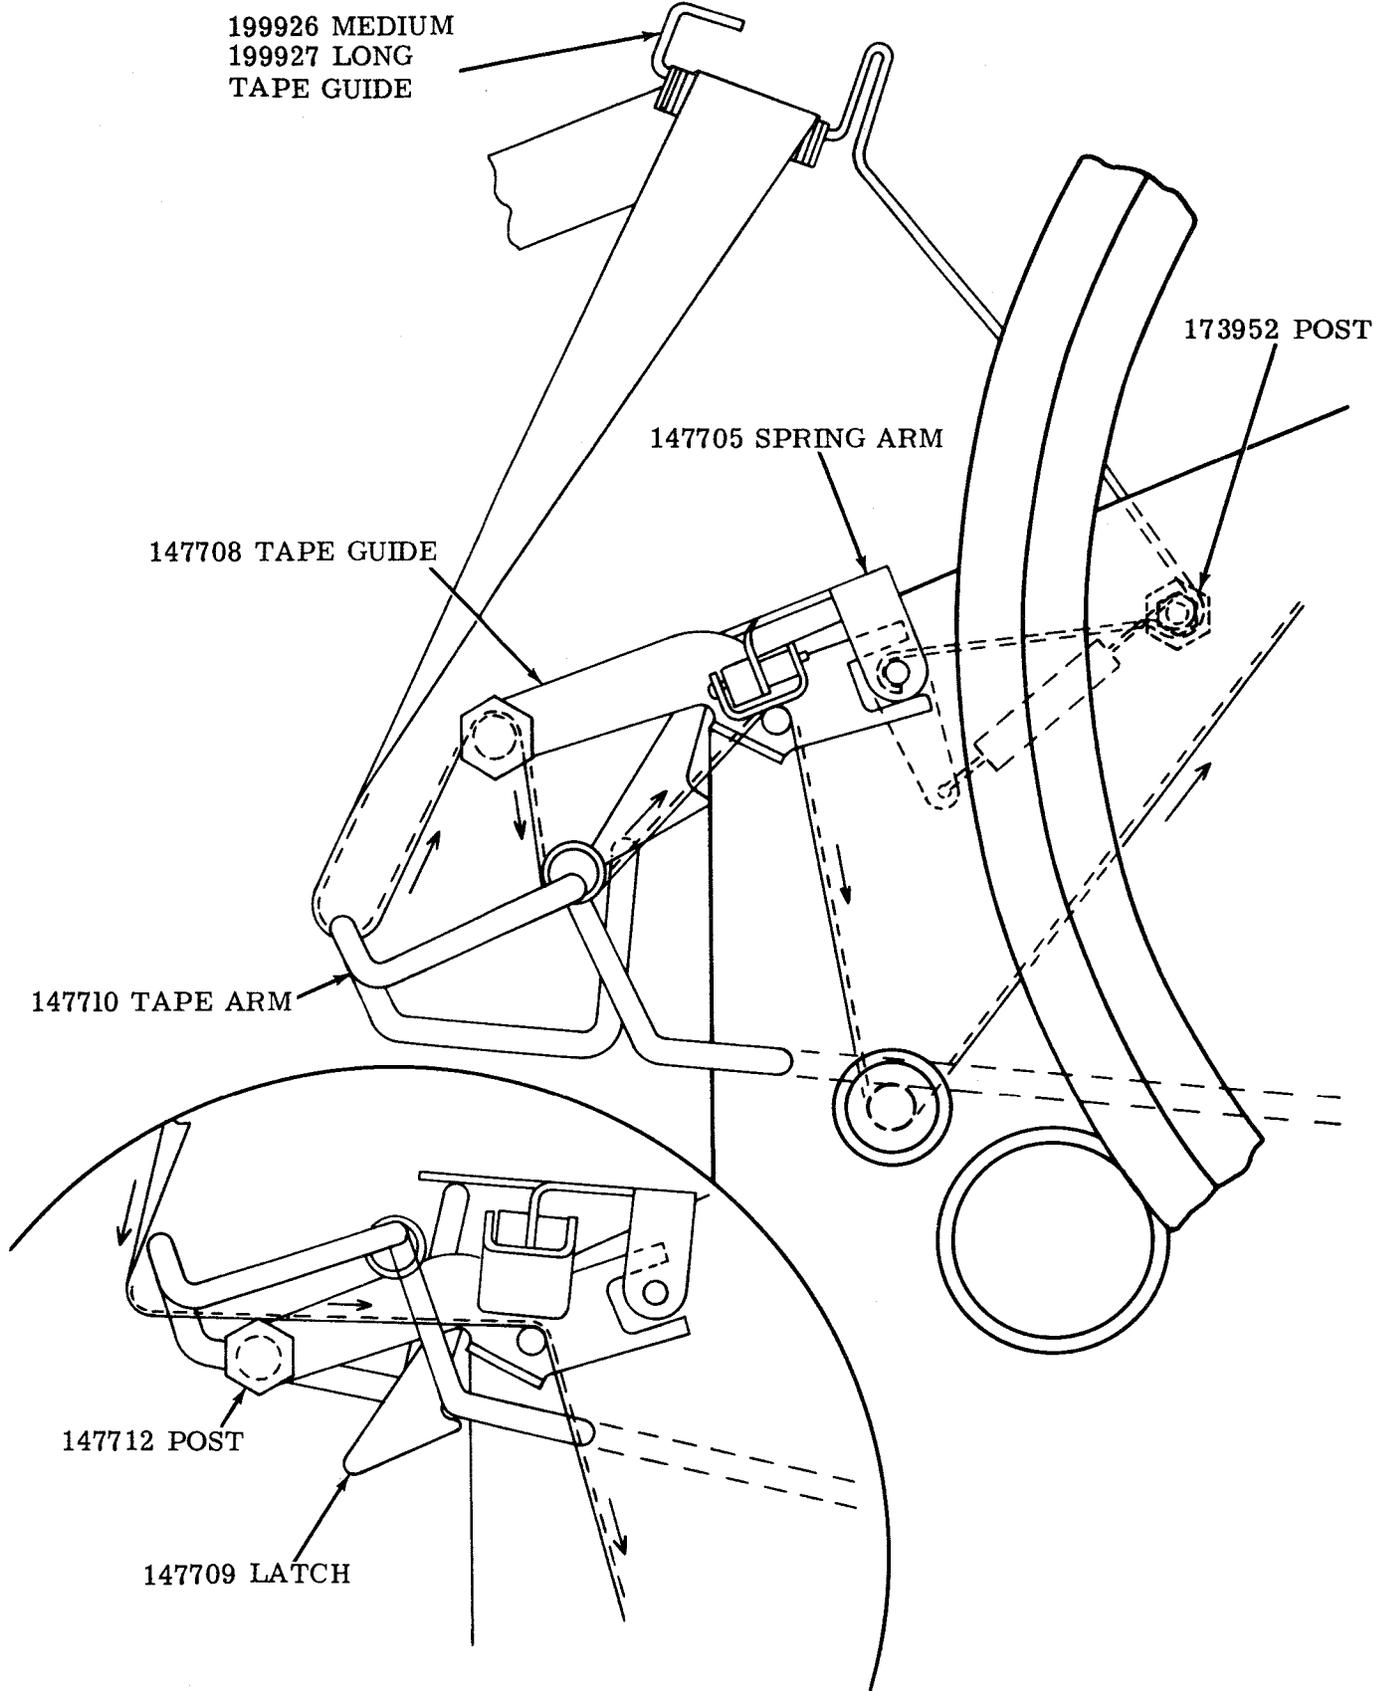

FIGURE 2
b. The two tape guides are mounted by fastening under the 173952 spring post as shown in Figure 2.